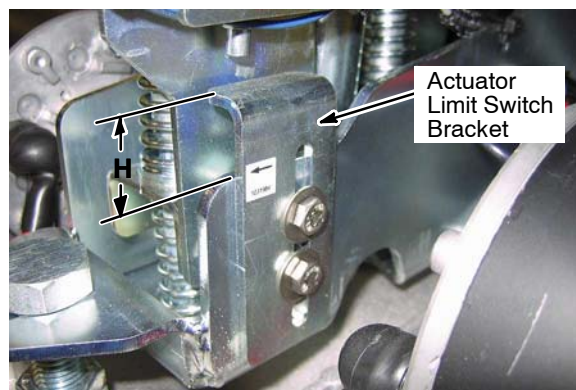

Fig. 11
11. **IMPORTANT STEP:** Adjust the actuator limit switch bracket as described below (Figure 11).